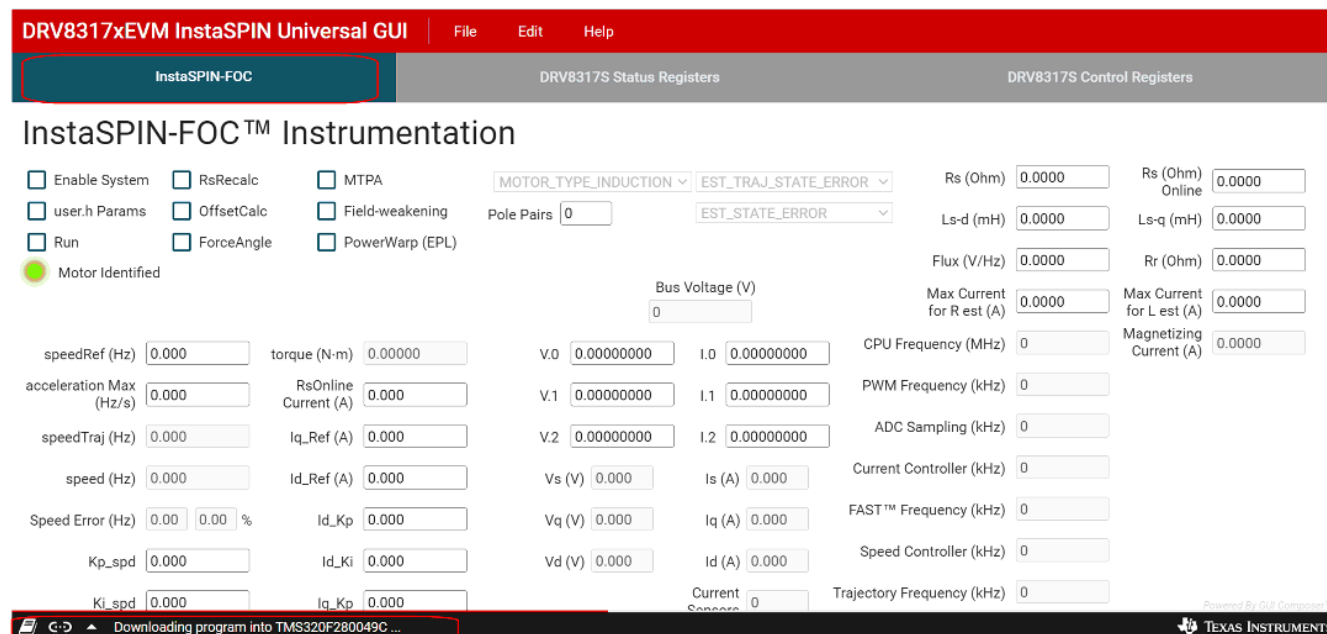

Figure 6-1. C2000 InstaSPIN Universal GUI Downloading Program
4. Select the "InstaSPIN-FOC" tab at the top right hand corner to go to the main page of the GUI. Check the bottom left corner of the GUI to see if the GUI flashes the algorithm to the MCU as shown in Figure 6-1. Once the device has completed flashing the algorithm, it should show "Hardware Connected" in the bottom left corner.